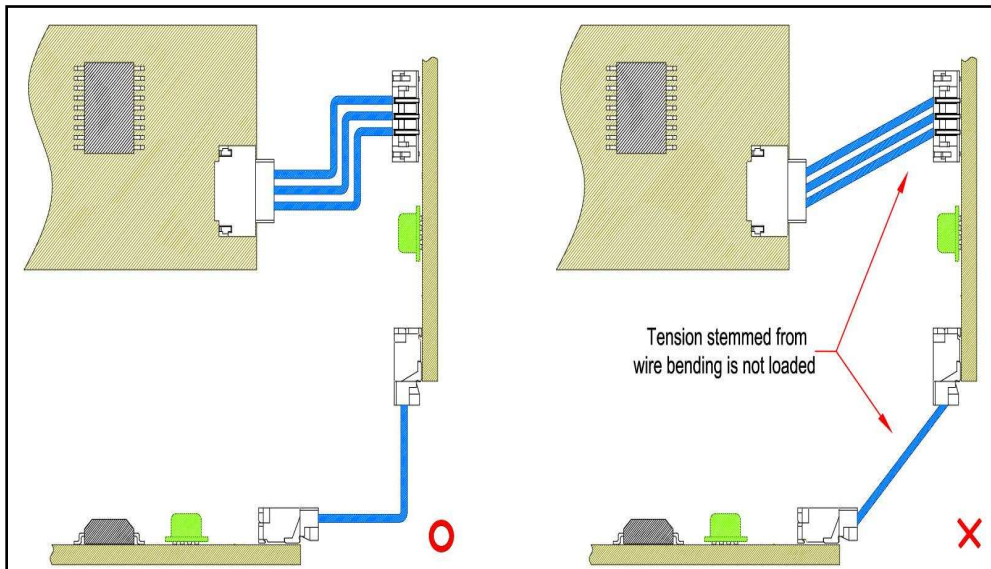

figure 6.1
- 6.1 Conduct wire handling carefully so that tension more than **1N** may not be applied per connector and one wire. Provide space above connector in order to form wire by bending and do not apply tension to connector. (see figure 6.1)